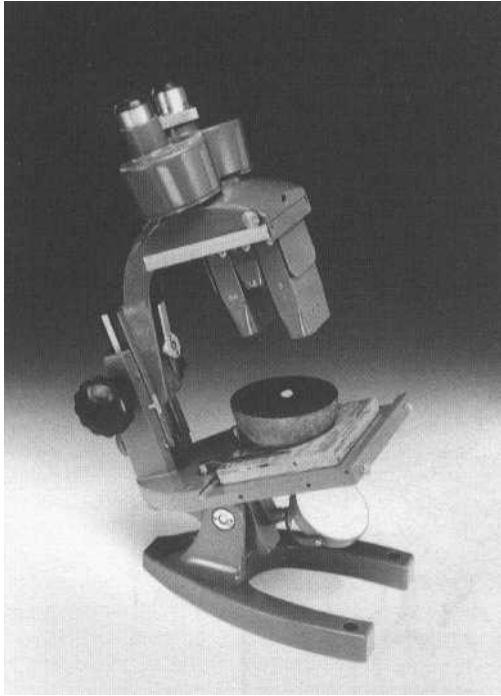
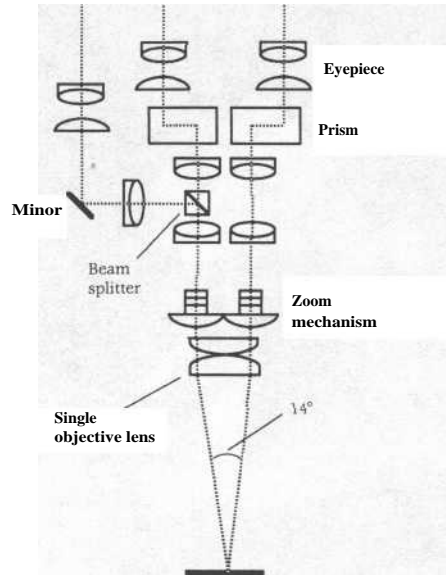
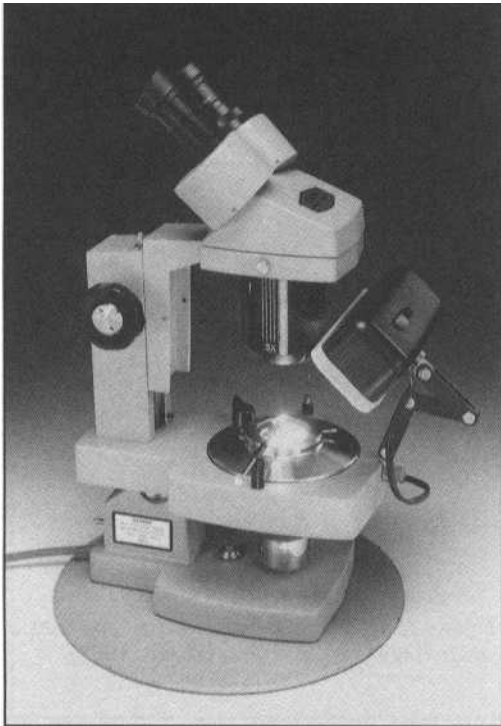

Figure 13-4 Binocular Greenough microscope by Bausch & Lomb. (Jeff Scovil Collection)
Figure 13-6 The wide-field microscope uses a single large objective lens. (Wight, 1993)
Figure 13-7 Gemological microscope with both transmitted and reflected illumination, and dark-field lighting (Courtesy of Michael's Creative Jewelry)
Microscopes and are relatively low powered (usually less than 100x). They are used primarily for viewing three-dimensional subjects that may be opaque (Figs. 13-4 and 13-5). The wide-field microscope has separate oculars, but uses only one objective (Fig. 13-6). For a more detailed discussion on these two types of microscopes, see Wight (1993). Gemological microscopes are stereo microscopes fitted with forceps for holding cut stones, plus substage condensers, iris diaphragms, and dark-field, reflected, and transmitted lighting (Fig. 13-7).
2. A beam-splitter can be used in one tube to divert the light from one ocular. The light is always available and has the same view as the oculars, but there is a reduced amount of light to each (Fig. 13-6).
Most micromounters use a variation on what is called in German, Kugeltisch, or "ball table." The simplest swiveling holder is made from half of a rubber ball. Fill the half ball with plaster of paris, then press a greased micromount box partially into it. When the plaster has dried, remove the box, sand the surface of the plaster smooth if necessary, and paint it matte black. The half ball is then placed in a hole, somewhat smaller than its diameter, that has been bored into a piece of wood, plastic, or metal (see Figs. 13-4 and 13-11). For photography, the device is placed on the microscope stage with a micromount box inserted into the recess. The half ball is easily rotated or angled for optimum viewing. Another variation on this theme would be to take a